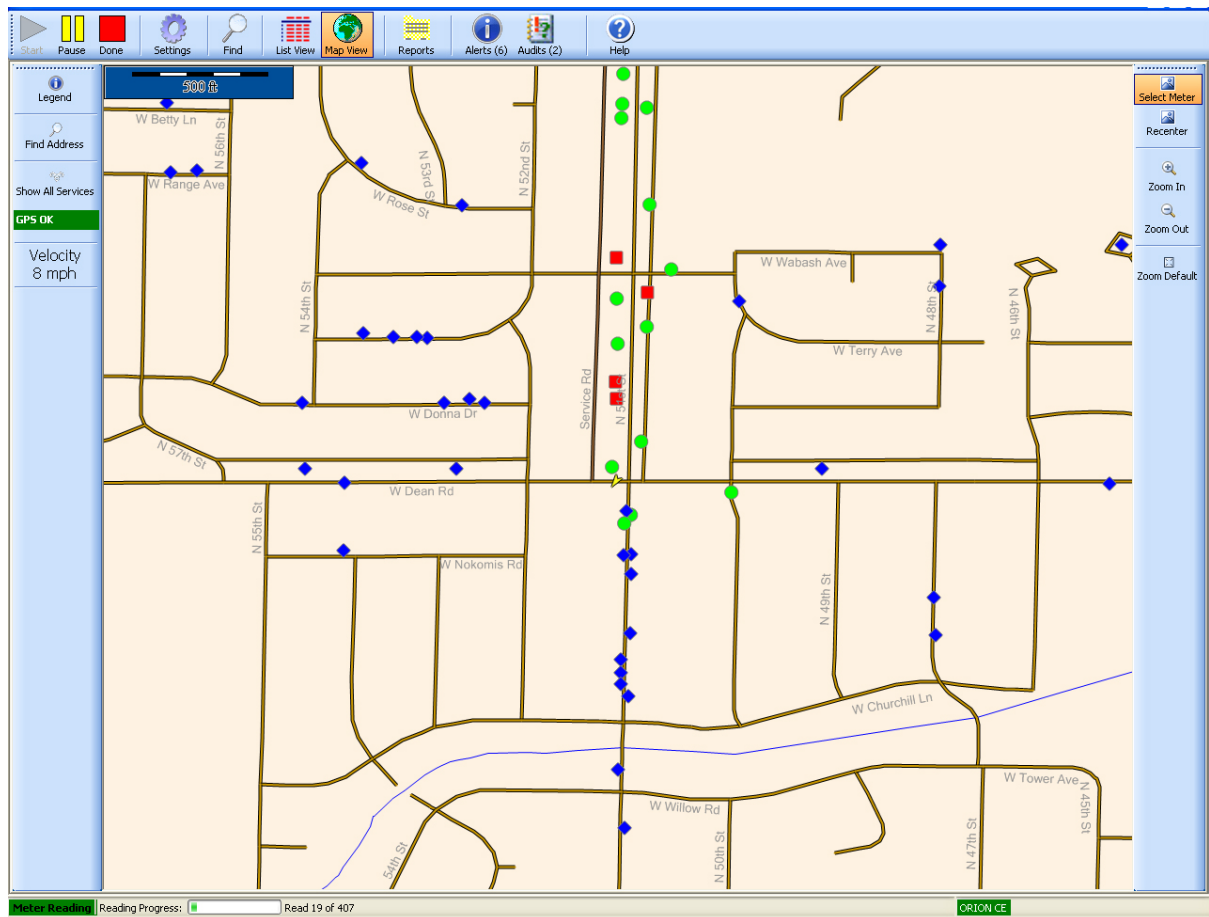

Figure 49: Meter reading in geocoding mode
Result: In Map View, the map control display on the left side of the screen changes to show "GPS OK" and the vehicle speed (Figure 49).
- **Summary** The current status of in-progress meter reading. This report displays as the default (*Figure 49*).